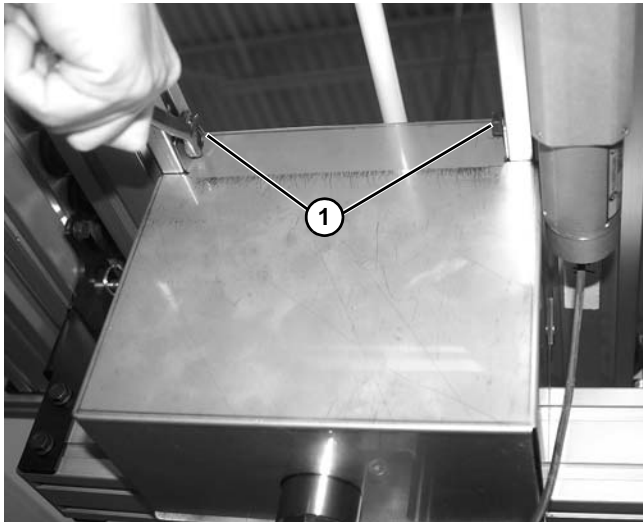

Figure 39
2. Loosen two screws (Figure 39, item 1).